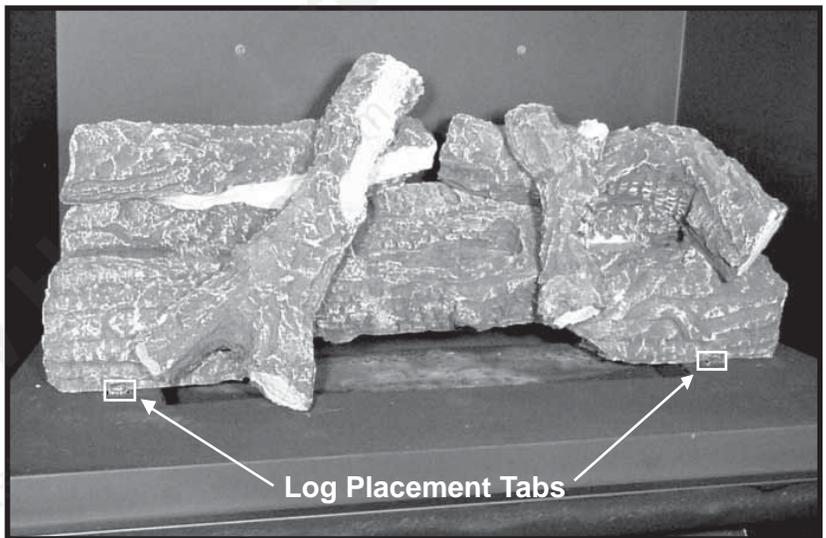

Figure 5
9. Carefully position the log set in the fireplace. Pull the log set forward until the log set contacts the log placement tabs. Center the log set in the firebox side to side as shown in Figure 5. Grate has been removed in Figure 5 photo only for purpose of illustration.